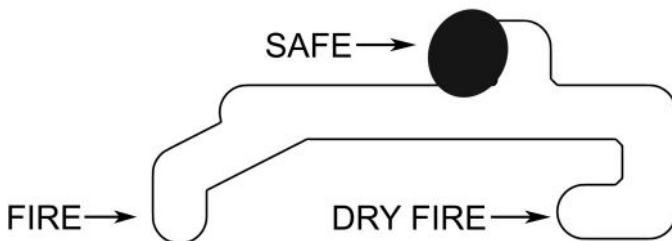

Figure 3.
The striker should normally be un-cocked when the cocking handle is put in the SAFE position. To un-cock the striker push the cocking handle all the way forward and while holding the cocking handle securely, pull the trigger with your other hand and ease the cocking handle rearward and place it in the SAFE position (See Figure 3).
- Make sure the airgun is unloaded and the cocking handle is in the SAFE position (See Figure 3).
- Make sure the airgun is on SAFE. (See Figure 3.)